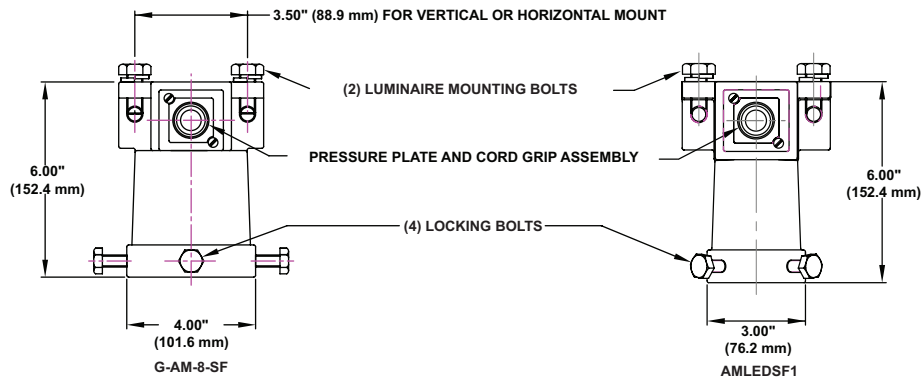

Figure 10: Poletop Slip-Fitters (P/Ns: G-AM-8-SF & AMLEDSF1)
1. Loosen the two screws on the pressure plate for cord/cable entrance. See Figure 10.
5. Mount the luminaire with yoke to the poletop slip-fitter using the two luminaire mounting bolts (supplied). Tightly secure the bolts. See Figures 10 & 11.